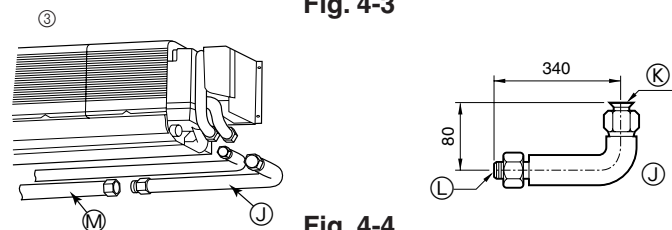

Fig. 4-4
③ L-shaped connection pipe (for gas piping) (Fig. 4-4)